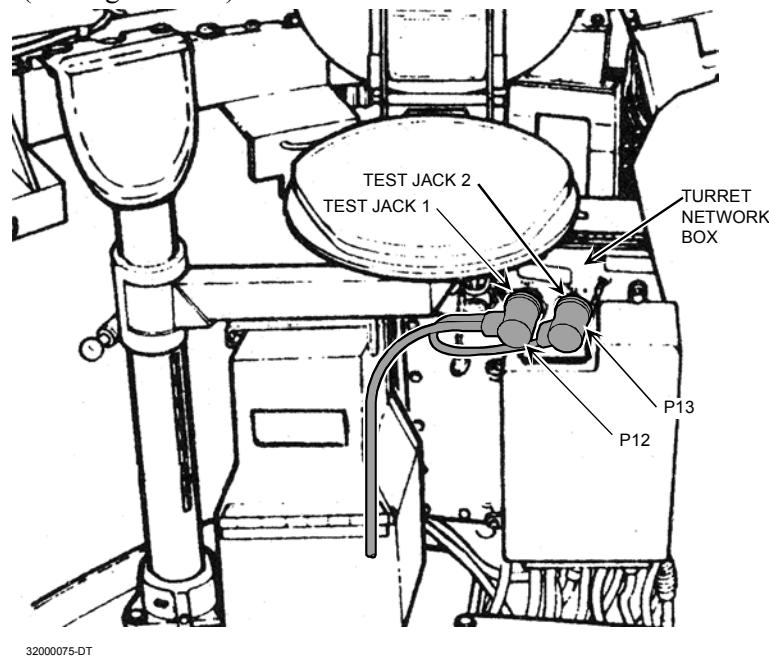

Figure 2-43. M1A1 system Cable Connection to Turret Network Box (TNB).
- d. Route the Turret Network Box (TNB) segment (P12 & P13) to the turret network box and connect (P12 & P13) to TEST JACKS 1 & 2 on the TNB. (See Figure 2-43.)
- c. There will be two (2) insulated wires, stripped at the ends and tinned, attached to the System Cable near the segments connected to the amplifier. Connect the tinned part of the (-) wire to the Audio binding post on the AM-1780. Connect the tinned part of the (+) wire to the other Audio binding post on the AM-1780.
- d. **M1A1 ONLY** - Route segment (P12) and segment (P13) to the Turret Network Box (TNB). Connect (P12) to TEST JACK 1 and connect (P13) to TEST JACK 2 on the TNB. (See Figure 2-43.)